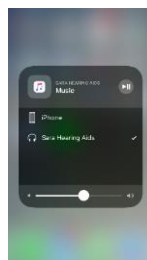

Figure 15
2. Press the  icon in the upper right corner of the audio card. Select your preferred audio source (Figure 15).